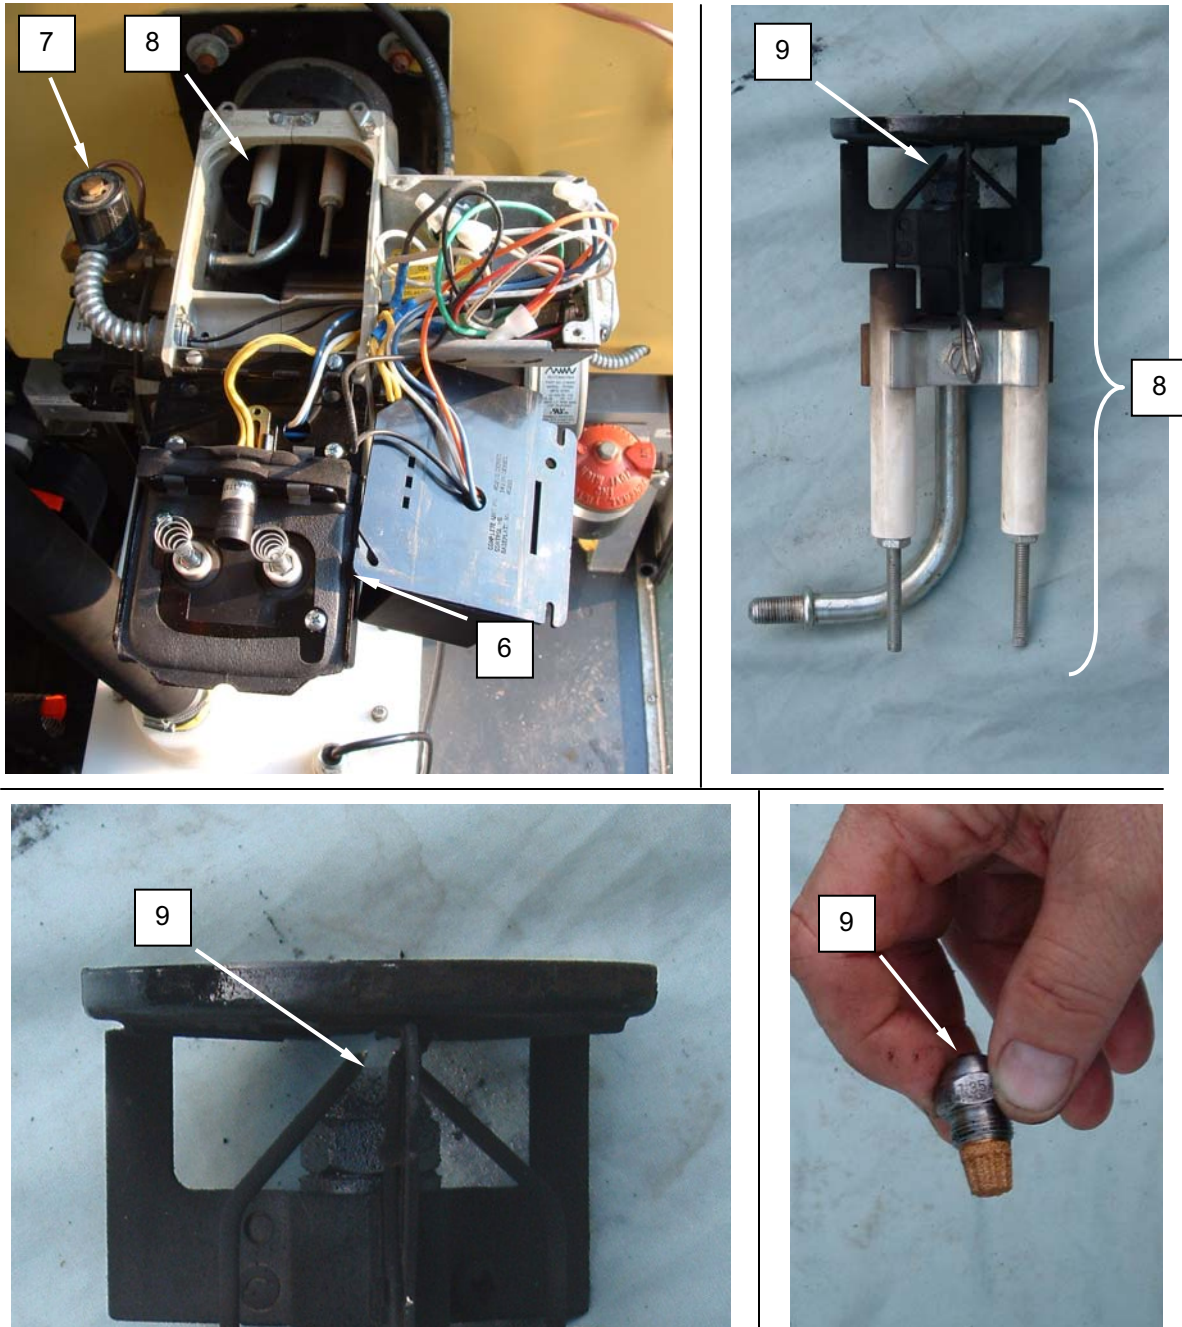

Figure 3. Replace Burner Nozzle.
2. Remove screws retaining transformer (**Figure 3, Item 6**) and swing transformer up and out of the way.
3. Loosen compression nut retaining the fuel solenoid (**Figure 3, Item 7**) to the nozzle assembly (**Figure 3, Item 8**).
4. Remove the locknut retaining the nozzle assembly (**Figure 3, Item 8**) and remove the nozzle assembly.
5. Unscrew the nozzle (**Figure 3, Item 9**) from the nozzle assembly (**Figure 3, Item 8**).
6. Install the replacement nozzle (**Figure 3, Item 9**) into the nozzle assembly (**Figure 3, Item 8**).
7. Install the nozzle assembly (**Figure 3, Item 8**) into the burner and retain with locknut.
8. Connect the fuel solenoid (**Figure 3, Item 7**) to the nozzle assembly (**Figure 3, Item 8**) and tighten compression nut.
9. Swing transformer (**Figure 3, Item 6**) back into place and retain with screws.